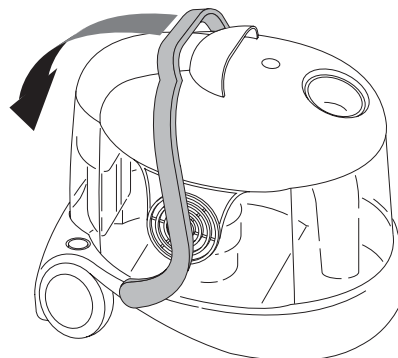

fig. 1
- Completely lower the handle that blocks the motor head **Q** (Fig. 1).